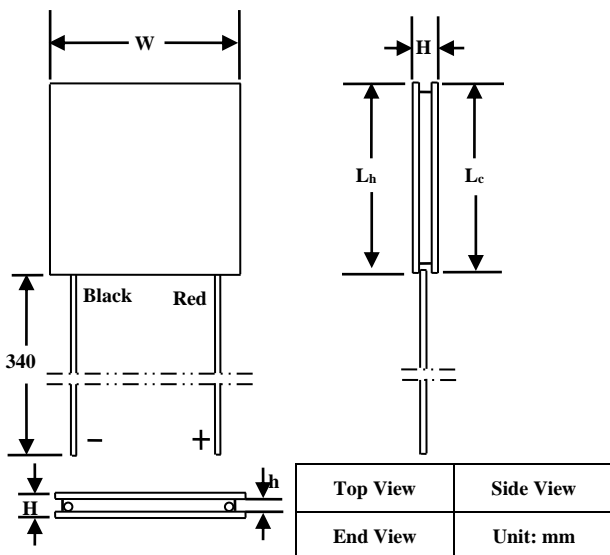

Figure 26. Mechanical Dimensions of Sealed ATE1-31
**Note:** As Figure 26 shows, when the red lead wire is on the right, then the top surface is the cold side of the TEC.